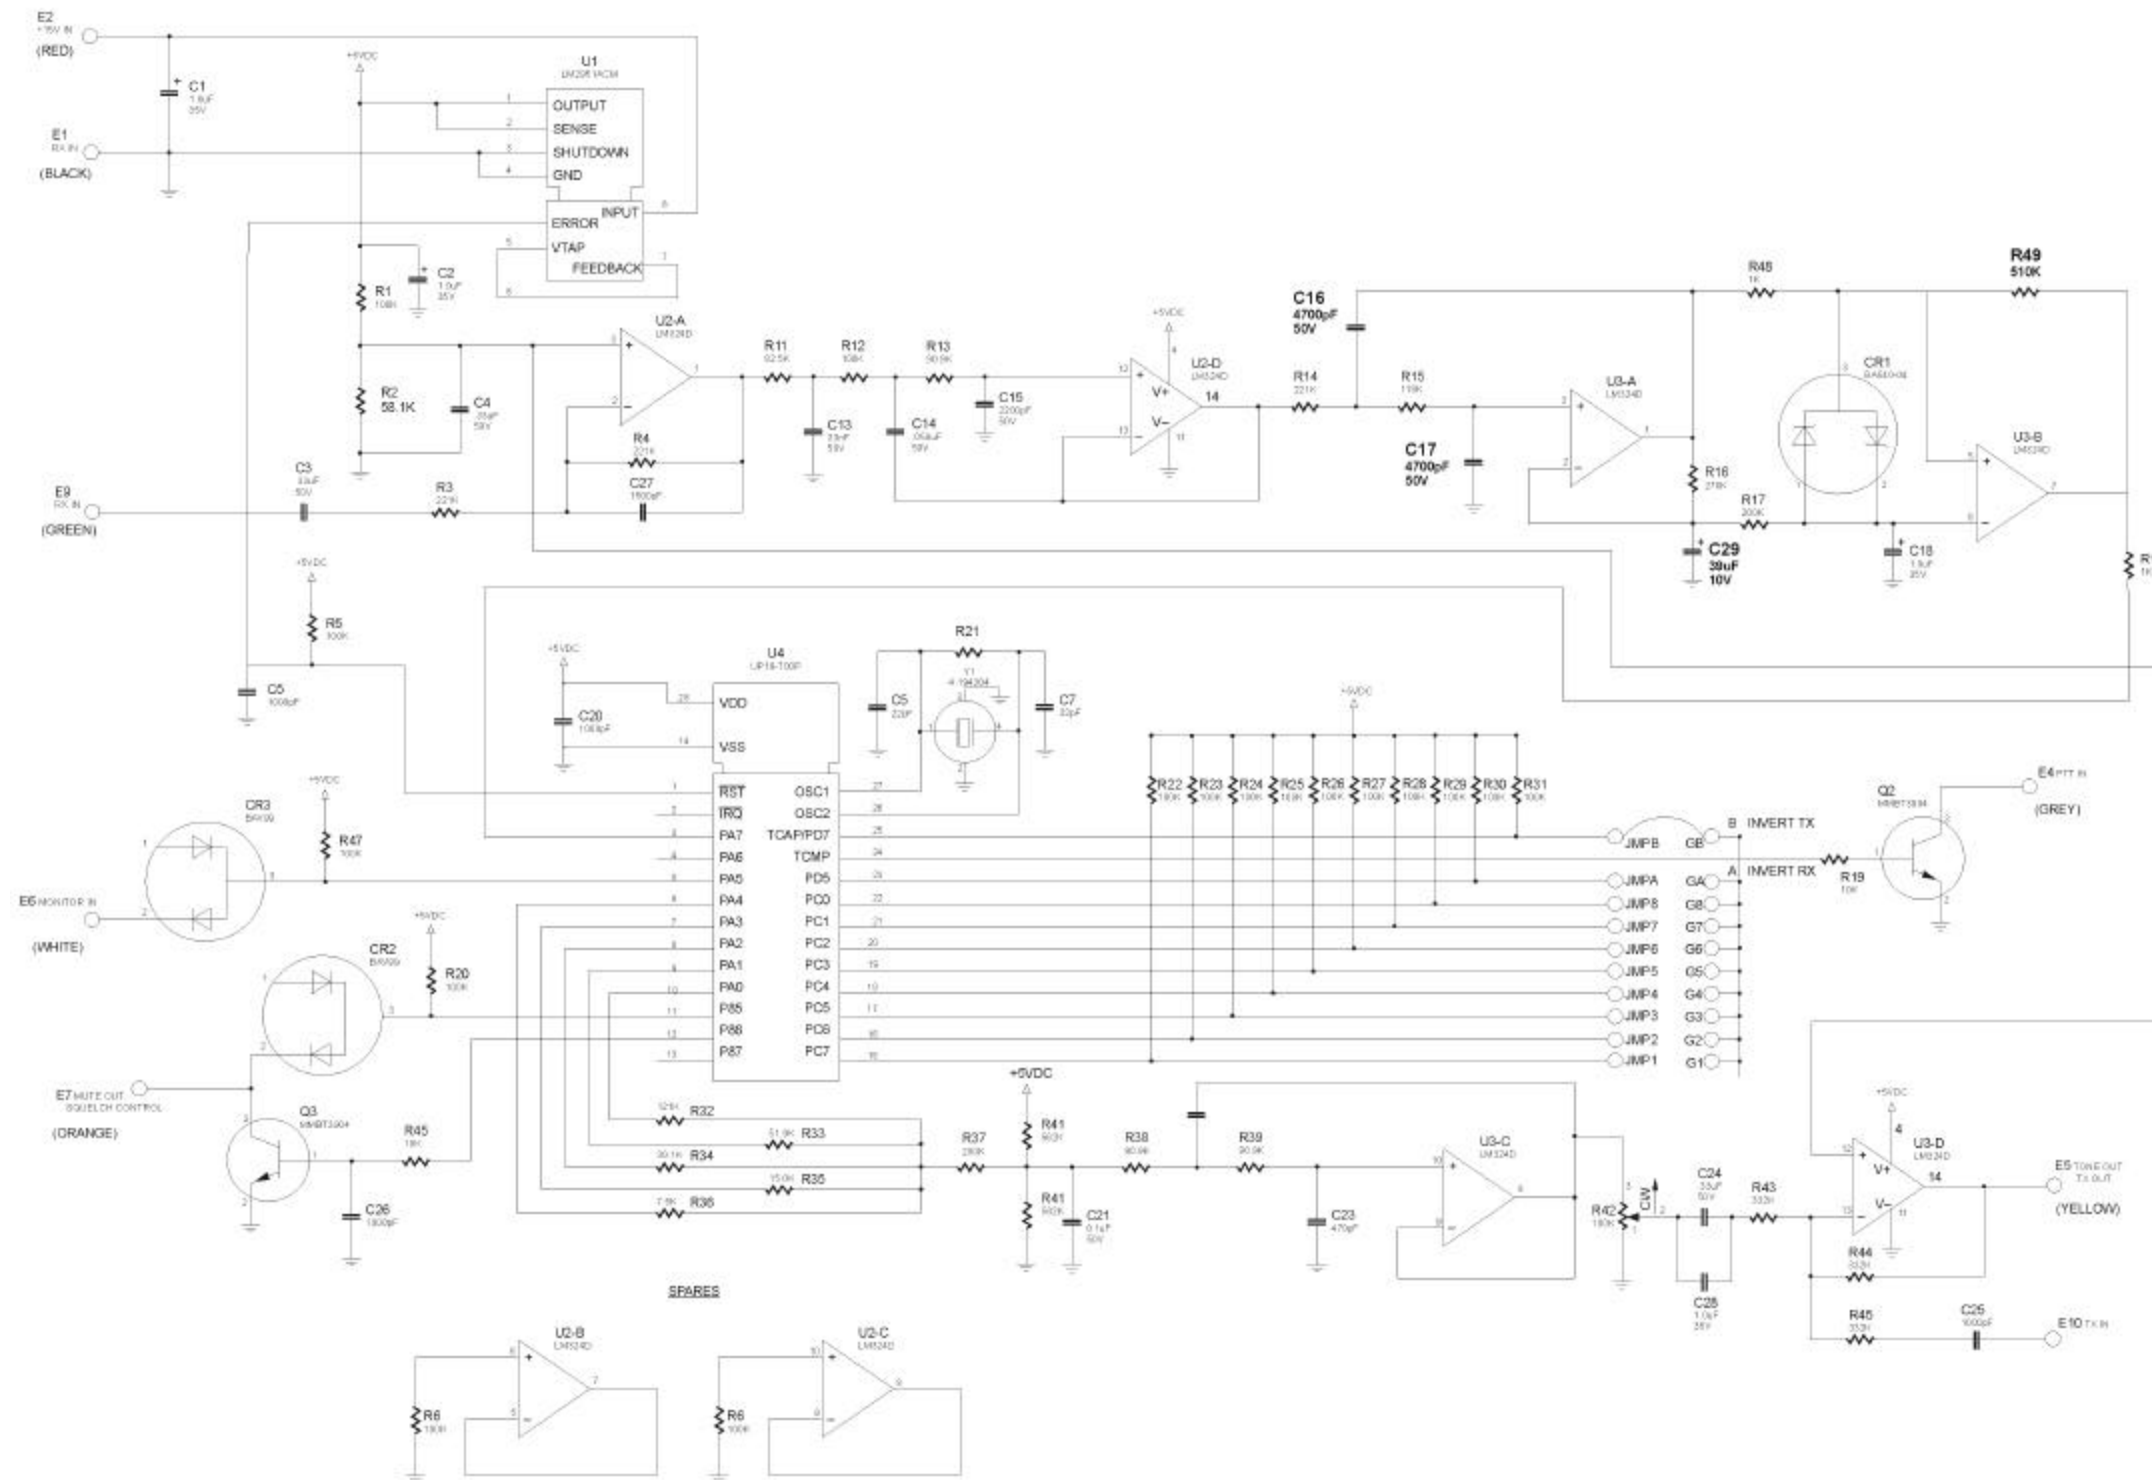

Figure 3. C-5000 CTCSS/DCS Tone Module 300-018390 Schematic
3. Remove capacitors C16 and C17 and resistor R49 as shown in Figure 2B. Refer to Figure 3.
4. Add capacitor C29, P/N 096-01082-0046 (Item 1), positive side pointing toward Q2, as shown in Figure 2B. Refer to Figure 3.